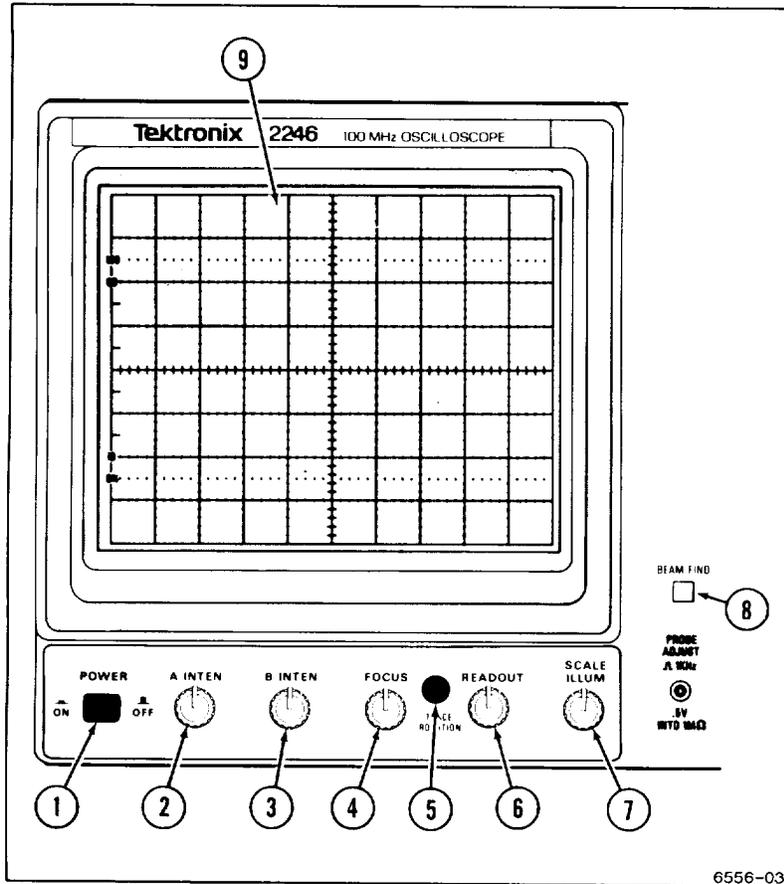

Figure 2-1. CRT, power, and display controls.
Refer to Figure 2-1 for location of items 1 through 9.